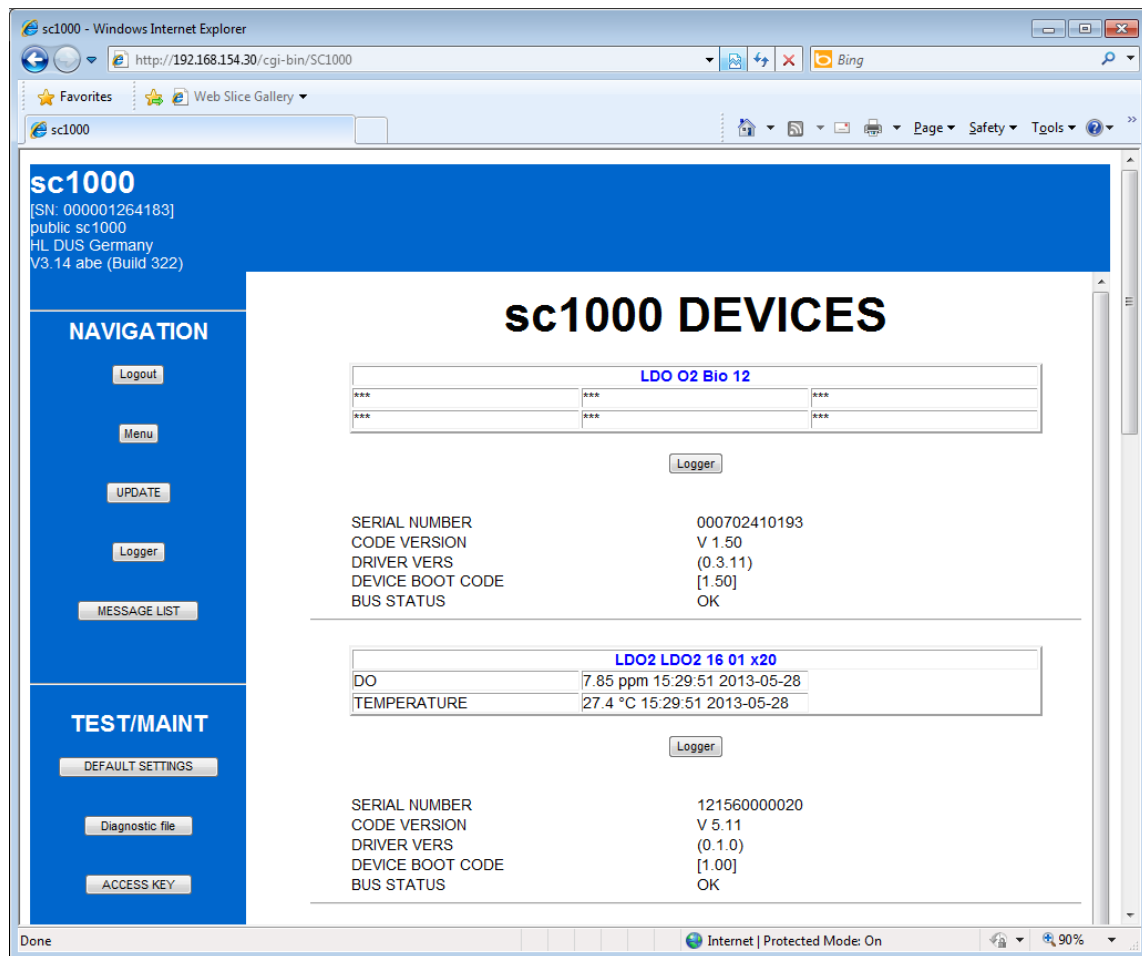

figure4: sc1000 HOME screen
- Now you can see the sc1000 HOME screen. From here you can view the measurement readings of the connected devices (figure4), navigate through the menu system ("Menu" button), and start sc1000 software update ("UPDATE" button).